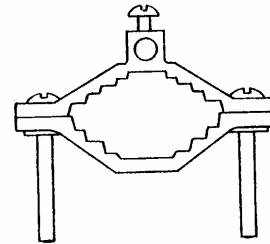

Figure 6 – Clamp for 5/8-inch thick rod
7) If the thumb screw provided on the standard 6-ft ground rod becomes damaged, it can be replaced with a nut, bolt, and washer. Alternatively, a grounding clamp can be used, NSN 5999-00-496-5834 (see figure 6). When using such a clamp with a strap-type conductor having fine strands (as typically provided with the 6-foot ground rod), it's preferred to clamp the strap directly to the rod rather than using the top screw terminal, to minimize damage and kinks in the strap.